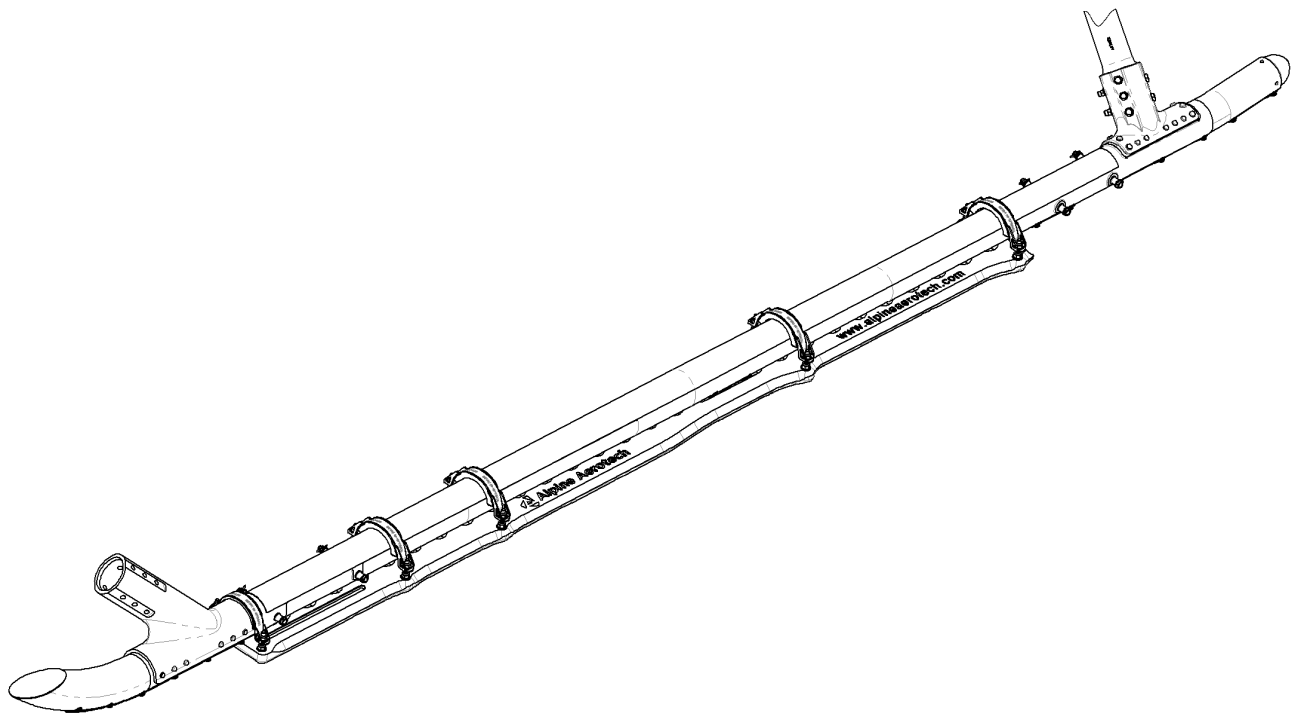

Figure 2
- 3. Install the Traction Paw, Assy normally as per AAL-490-025-701 Section 3. Reference Figure 2.